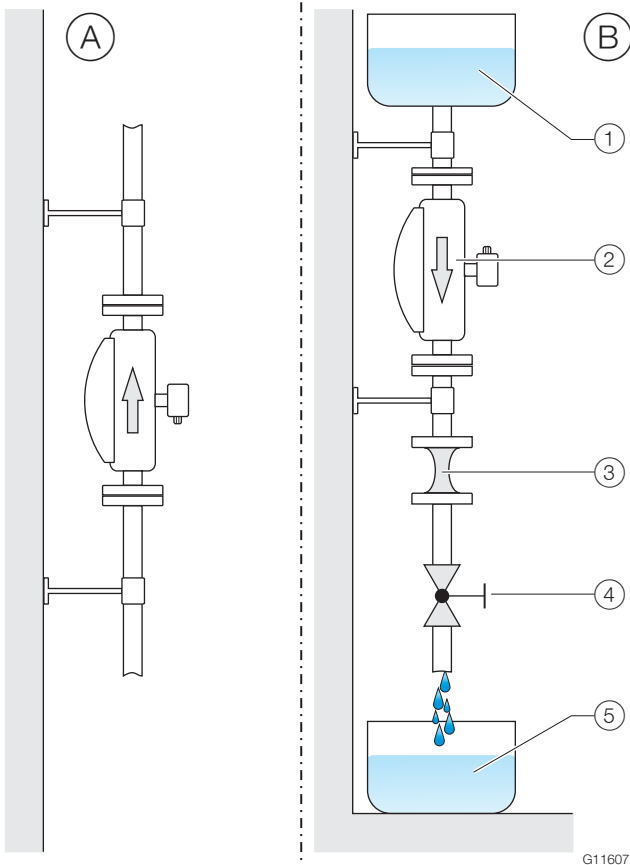

Fig. 4: Vertical installation
- The required self-draining functionality of the sensor can only be guaranteed when the vertical mounting position is used (see also Fig. 4 on page 8).